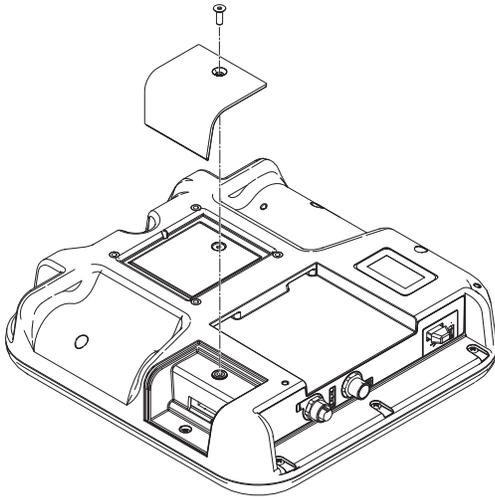

FIG. 2: Remove Token Access Cover
1. Place the ADM face down on a flat surface and remove the token access cover (L) as shown in **Figure 2**.